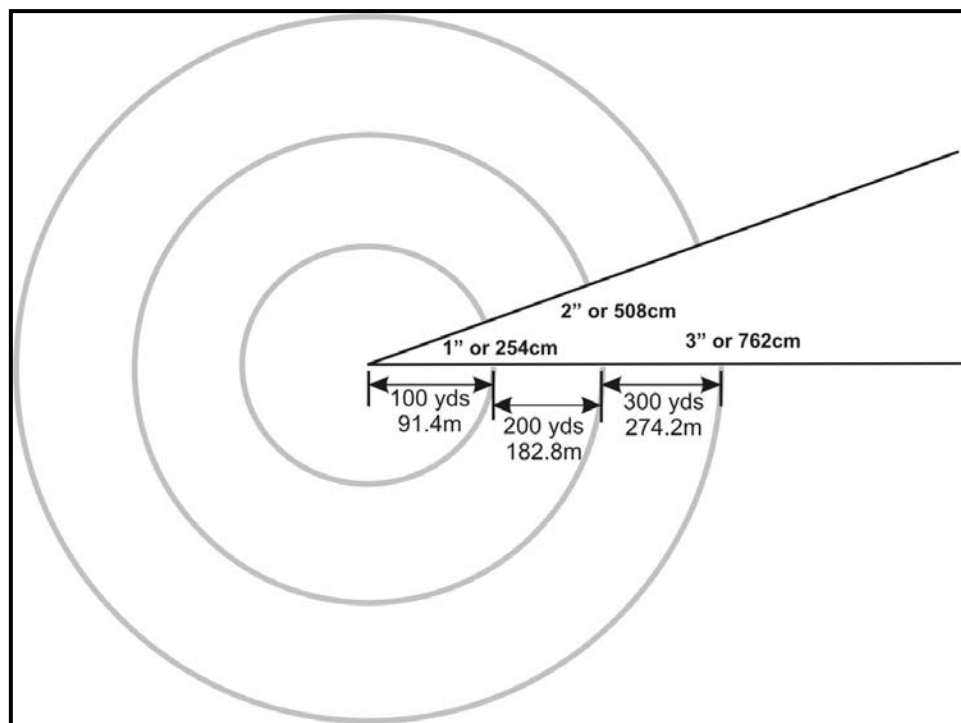

Figure 5-37. Minute of angle.
(1) **Minute of Angle.** A minute of angle (a term used to discuss shot dispersion) is the standard unit of measurement used in adjusting rifle sights and other ballistic-related measurements. It is also used to indicate the accuracy of a rifle. A circle is divided into 360 degrees. Each degree is further divided into 60 minutes; therefore, a circle contains 21,600 minutes. A minute of angle is an angle beginning at the muzzle that would cover 2.54 centimeters at a distance of 91.4 meters (Figure 5-37). When the range is increased to 182.8 meters, the angle covers twice the distance, or 5.08 centimeters. The rule applies as range increases—7.62 centimeters at 274.2 meters, 10.16 centimeters at 365.6 meters, and so on.